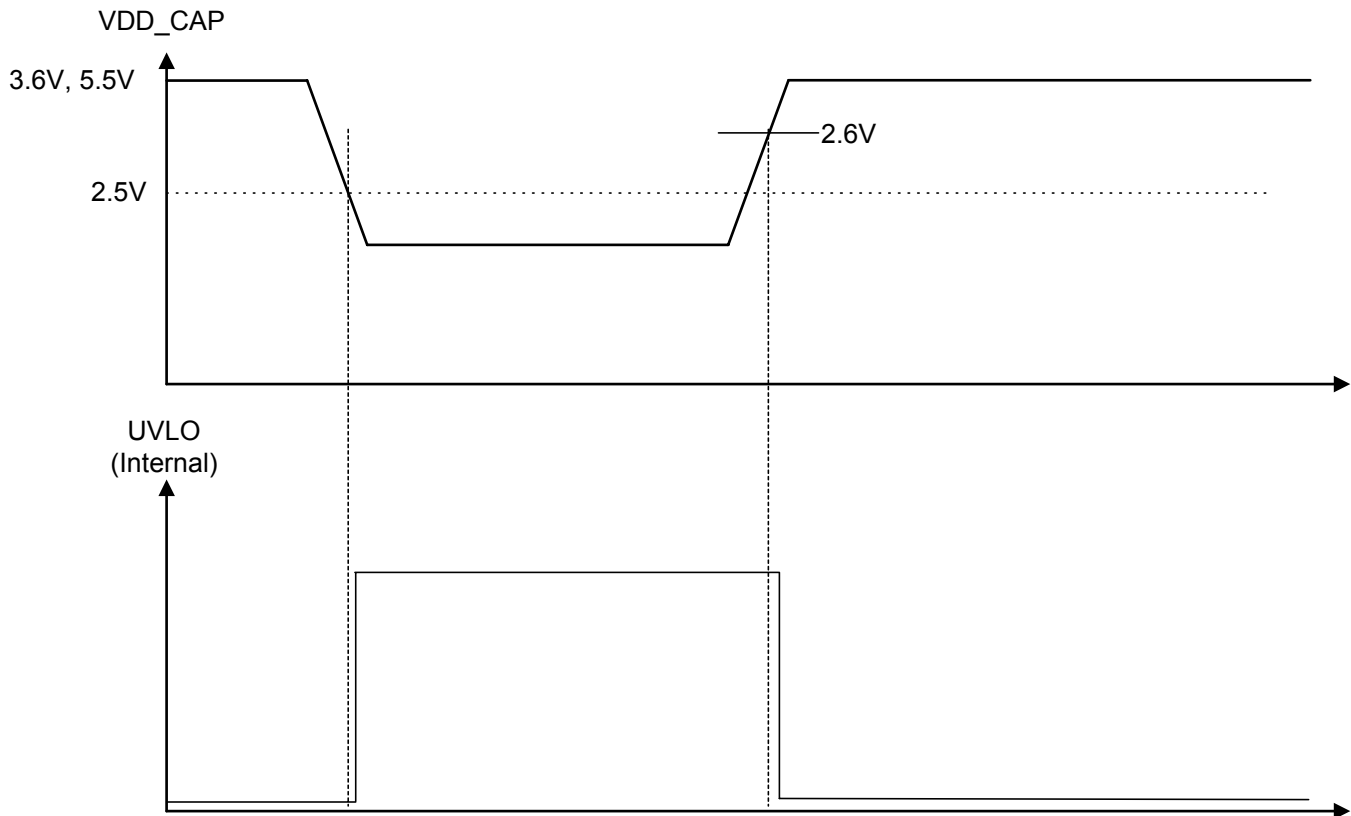

Figure 10 - Timing Sequence recovering from a VDD\_CAP Power 'Brown-Out'
2.5V (Figure 10), an internal undervoltage lockout (UVLO) circuit will reset all internal logic. Once power has recovered above 2.6V the SMM764 will restart as if a Command-Triggered power-off had been issued.